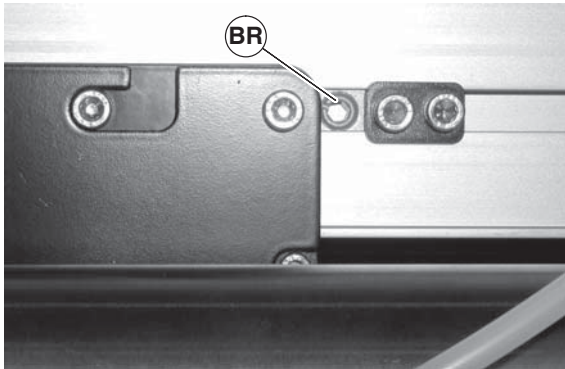

Figure 44
3. Rotate the tracking cam (Figure 44, item BR) in small increments, each time inspecting the belt as it exits the center drive. Continue to rotate the tracking cam until conveyor belt is tracking normally.